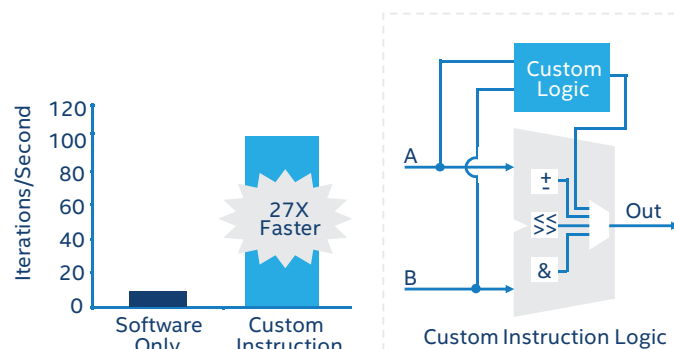

Figure 10. Custom Instruction Performance Gains
You can scale processor performance by adding custom instructions in-line with the processor code. This technique accelerates specific processor instructions, as illustrated in Figure 10.
You can accelerate time-critical software algorithms by adding custom instructions to the embedded processor instruction set. The example in Figure 10 shows how you can add custom instruction logic to the arithmetic logic unit (ALU) of the Nios® II processor. Using custom instructions reduces a complex sequence of standard instructions to a single in-line instruction implemented in hardware. You can use this feature for a variety of applications. For example, you can optimize software inner loops for DSP, packet header processing, and computation-intensive applications. The Intel Quartus® Prime software provides a configuration GUI that supports up to 256 custom instructions to the Nios II processor. The example in Figure 10 uses a 64 Kilobyte (KB) cyclic redundancy check (CRC) buffer. The custom instruction can accelerate CPU performance by up to 27 times faster than software-only operation in a Nios II processor.